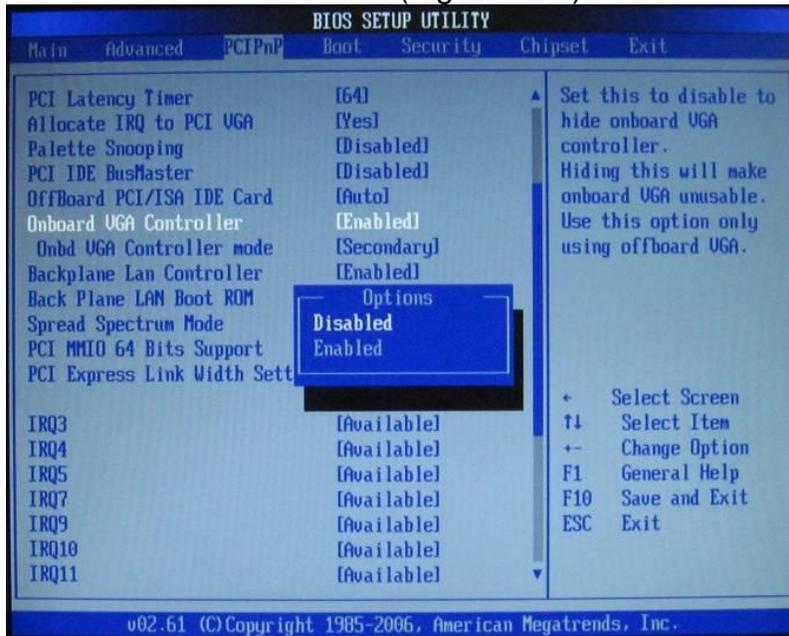

Figure 8-43 Onboard VGA Controller Popup Screen
33. On **Onboard VGA Controller** Popup screen. Select **Disabled**, Press **Enter**. (Figure 8-43).